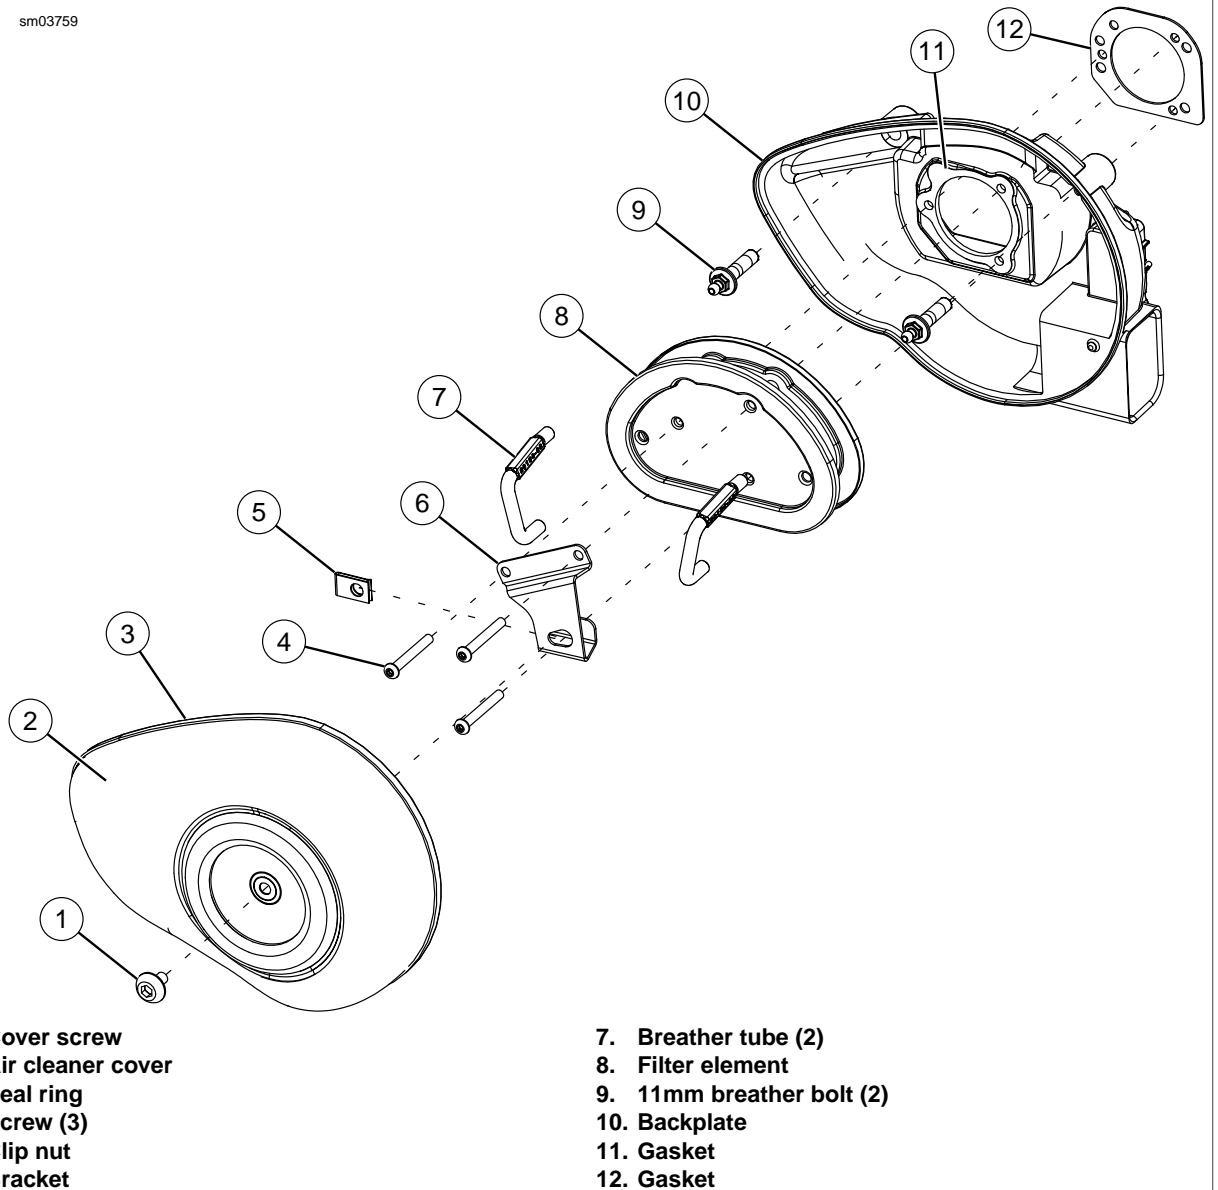

Figure 4-1. Air Cleaner Assembly
1. See Figure 4-1. Remove screw (1) and air cleaner cover (2).
2. Gently pull both rubber breather tubes (7) from the element.
3. Slide clip-nut (5) to the left to allow access to third screw. Remove three screws (4), bracket (6) and filter element (8).
6. Inspect seal ring (3) for cracks or tears. Verify that it seals tightly to backplate. Replace as required.
7. Alternately back out both breather bolts (9) (metric) a few turns a time while pulling backplate (10) away from induction module.
8. Continue previous step until breather bolts are clear. Remove backplate (10), gasket (11) and gasket (12). Discard gaskets.
9. Wipe inside of air cleaner cover (2) and backplate (10) with damp cloth to remove dust.
1. See Figure 4-1. Position **new** gasket (12) on backplate. Insert two breather bolts (9) (metric) into backplate. Thread bolts loosely into each cylinder head. Final tighten bolts to 22-24 ft-lbs (29.8-32.5 Nm).
2. Position **new** gasket (11) on filter element (8). Make sure gasket holes are aligned with screw holes.
3. Attach breather tubes (7) to breather screws on backplate.
4. Install air filter element (8) and bracket (6) using three screws (3). Tighten to 40-60 **in-lbs** (4.5-6.8 Nm). Slide clip-nut (5) to the right and into place.
5. Insert breather tubes (7) into holes in filter element.
6. Install air filter cover (2).
- a. Apply a drop of LOCTITE THREADLOCKER 243 (blue) to threads of air cleaner cover screw (1).